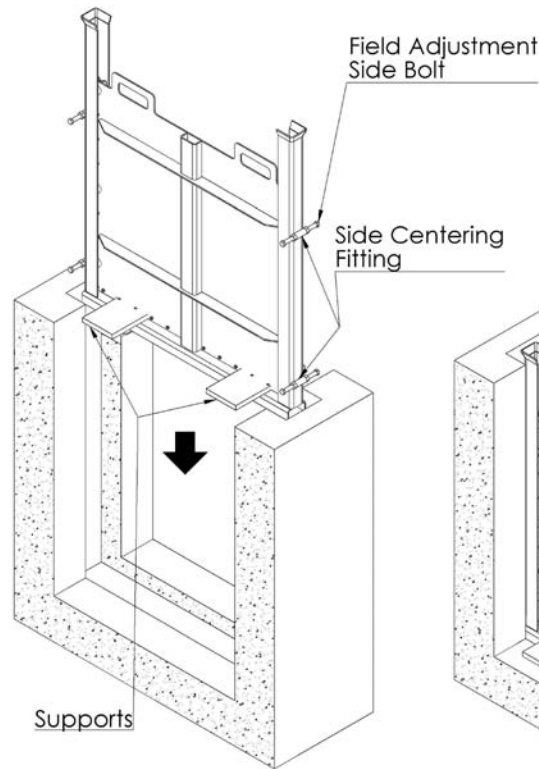

Figure 4
- Raise the slide enough to fit the two supports and secure the supports by closing the slide (See Figure 4).